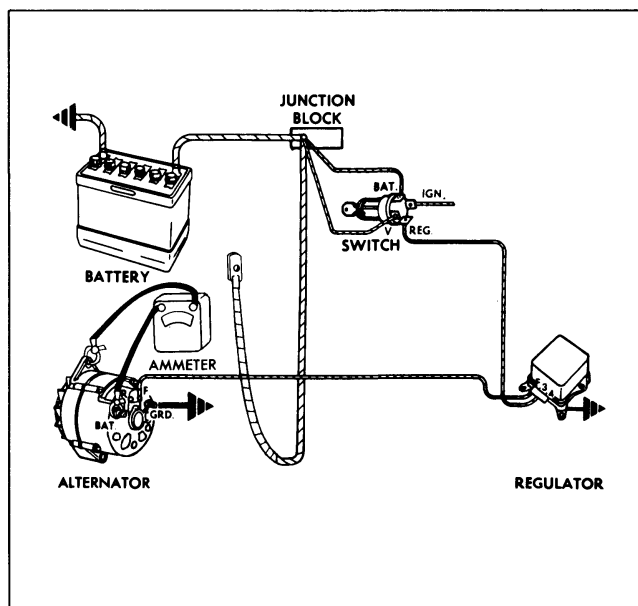

Fig. 11-28 Ammeter Measuring Output
5. Move ammeter lead from positive battery terminal to alternator frame (Fig. 11-28). Start engine and increase to 2500 rpm.